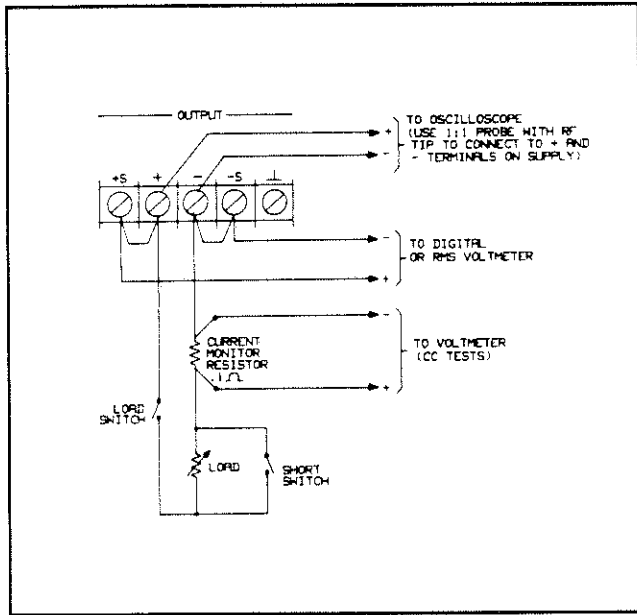

Figure 3-2. Basic Test Setup
- Turn off the supply and connect the output to be tested as shown in Figure 3-2 with the DVM connected between the +S and -S terminals, the Load switch closed, and the Short switch opened.
- Connect the output as shown in Figure 3-2 with the DVM connected between the +S and -S terminals, the Load switch closed, and the Short switch opened. Set the transformer to the nominal line voltage.
- Turn off the supply and connect the output as shown in Figure 3-2 to an oscilloscope (ac coupled) between the + and - terminals. Use only a resistive load for this test. Close the load switch and open the short switch. Set the oscilloscope's 20 MHz bandwidth limit on and use an RF tip on the oscilloscope probe. Also, make sure that the OUTPUT MODE switch on the supply's rear panel is in the NORMAL position.